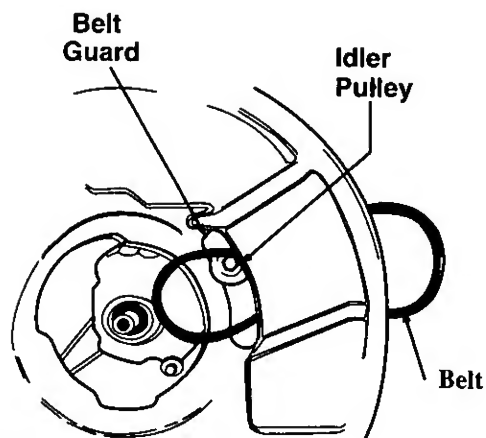

Figure 20.
- Remove the belt from between the idler pulley and the belt guard on the idler pulley bracket. See figure 20.
- Push the idler pulley up out of the way as shown in figure 20.
- Slide the belt in from the rear of the deck, and place it around the transmission pulley. See figure 20.